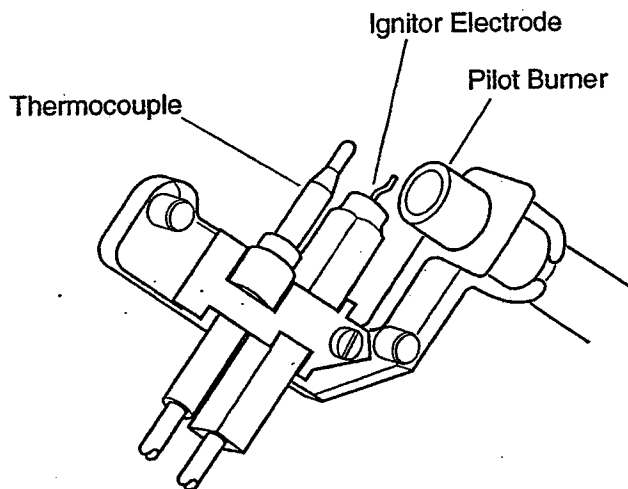

Figure 16 - Pilot
5. Turn control knob counter clockwise  to the PILOT position. Press in control knob for five (5) seconds. (see Figure 16)